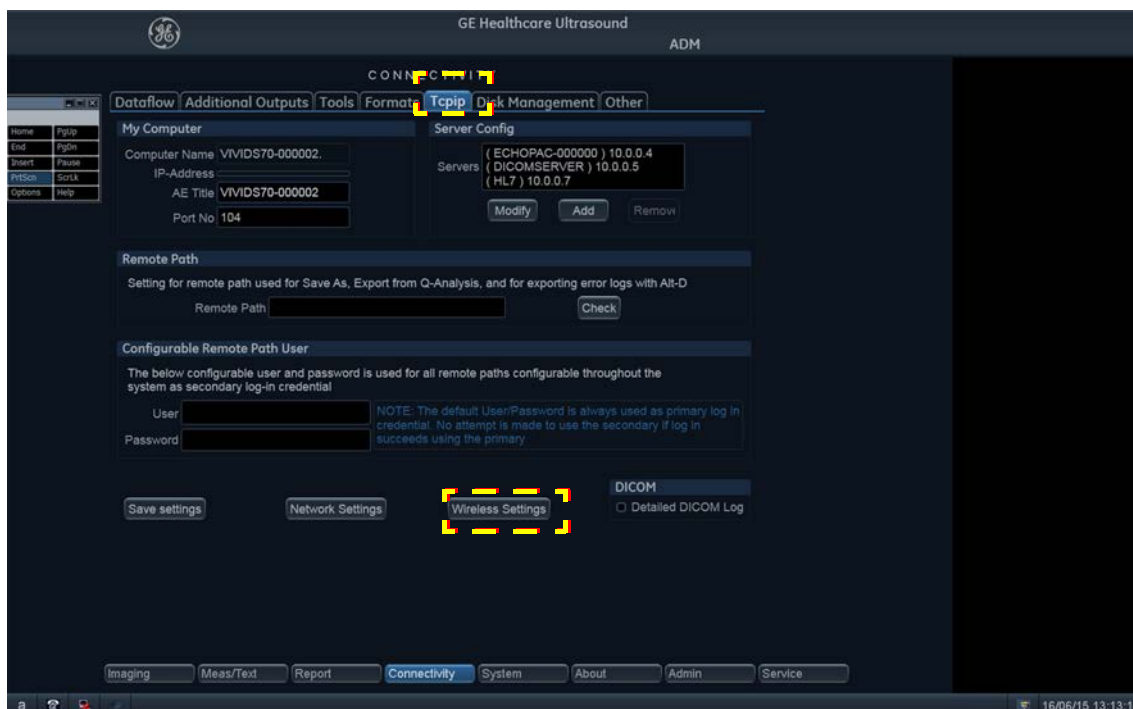

Figure 3-34 Connectivity - TCPIP Tab
- 5.) Click the **Wireless Settings** button - see Figure 3-34.